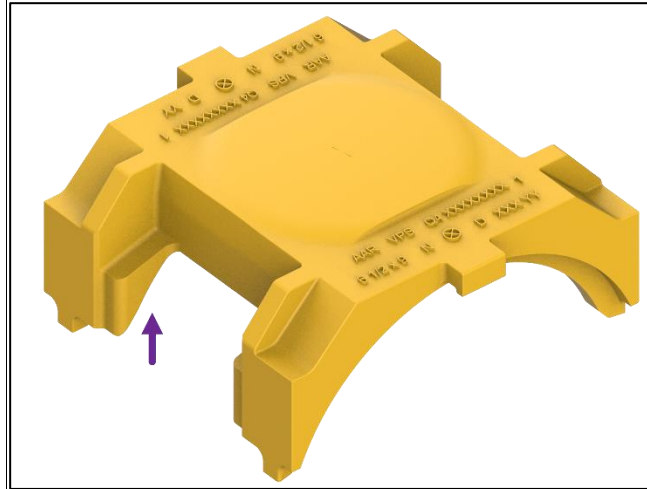

Figure 43: Guide Support Shoulder
The guide support shoulder may wear due to contact with the side frame thrust lug (Figure 43). This wear will only occur on one (1) side of the adapter. If the wear exceeds 1/8" in depth the adapter may be rotated 180° and re-installed. If any given side (inboard or outboard locations) have wear greater than 1/4", the adapter shall be replaced.